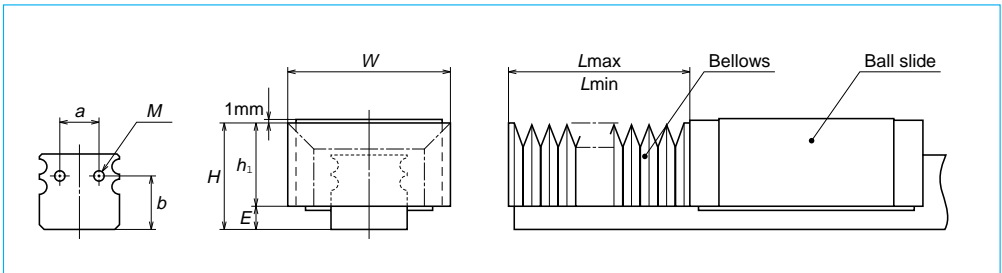

Fig. II-5-11
② LY Series
* Installation in the ball slide (Fig. II-5-11)